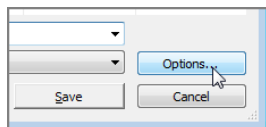

FIGURE 1.49: The Options button in the Save As dialog lets you choose how the file is saved.
2. In the Save As dialog, click the Options button in the lower-right corner (see Figure 1.49).